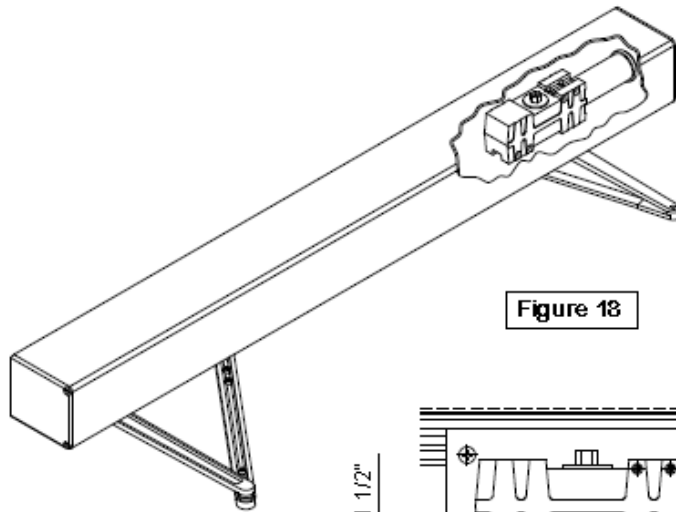

Figure 18
- 1) Drill and tap door rail per figure 18.